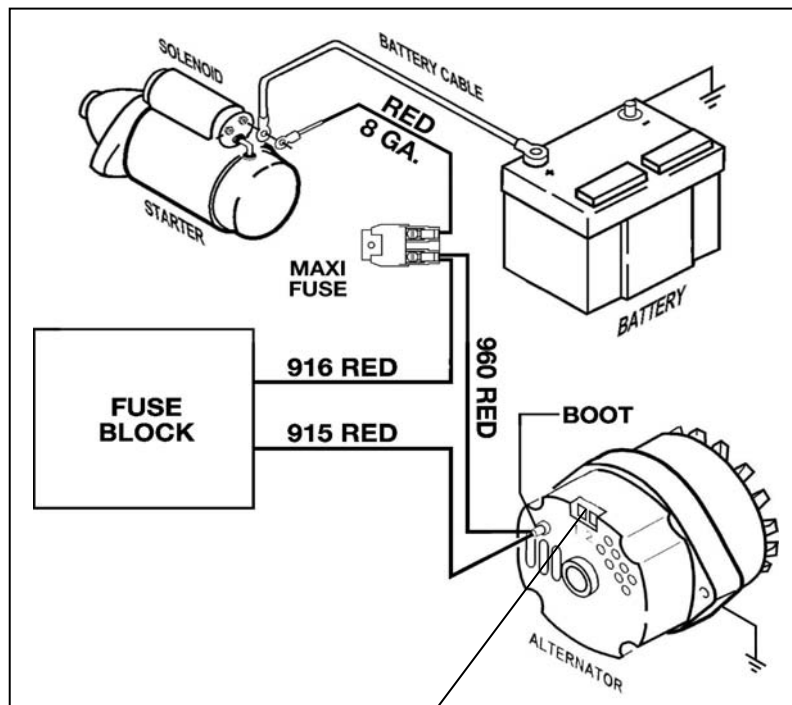

Figure 7-2B High Output Wire
- 7.2.4 Connect ENGINE SECTION wire #915 (red) to the Alternator Output lug (Bat). Insulate and stow ENGINE SECTION wire #914 (wht). Do not install jumper wire. No wires are connected to Alternator terminals 1 & 2. If alternator output is greater than 65 amps refer to Figure 7-2B and the caution on page 6.
CAUTION: IF USING AN ALTERNATOR WITH AN OUTPUT LARGER THAN 65 AMPS, YOU WILL ALSO NEED TO USE THE RED 10 GAUGE WIRE #960 AND THE RED 8 GAUGE WIRE INCLUDED IN THE BOX. THE WIRE END WITH THE RING TERMINAL AND RUBBER BOOT WILL CONNECT TO THE ALTERNATOR OUTPUT LUG WITH #915. ROUTE THE OTHER END TO THE MAXI FUSE TERMINAL WITH WIRE #916. CUT THE WIRE AND CRIMP ON A RING TERMINAL. NOW INSTALL A RING TERMINAL ON THE REMAINING RED 8 GAUGE WIRE AND ATTACH IT TO THE STARTER SIDE TERMINAL OF THE MAXI FUSE. CUT THE 8 GAUGE RED WIRE TO LENGTH, CRIMP ON A RING TERMINAL AND ATTACH IT TO THE MAIN SOLENOID LUG WITH THE POSITIVE BATTERY CABLE. SEE FIGURE 7-2B.